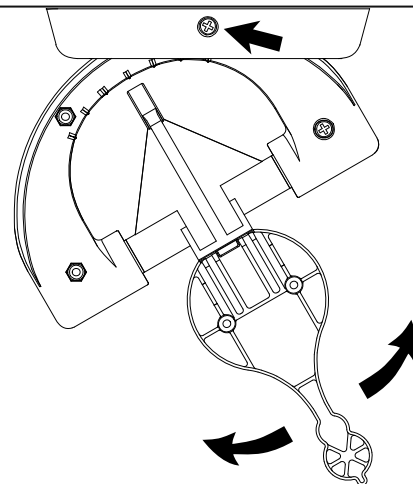

Figure 12
4. Set the blade holder assembly to the desired angle (10° increments up to 30° max - wide oval blade; 45° max - narrow oval blade) tighten the base mount screw in the side of the base. **Figure 12**